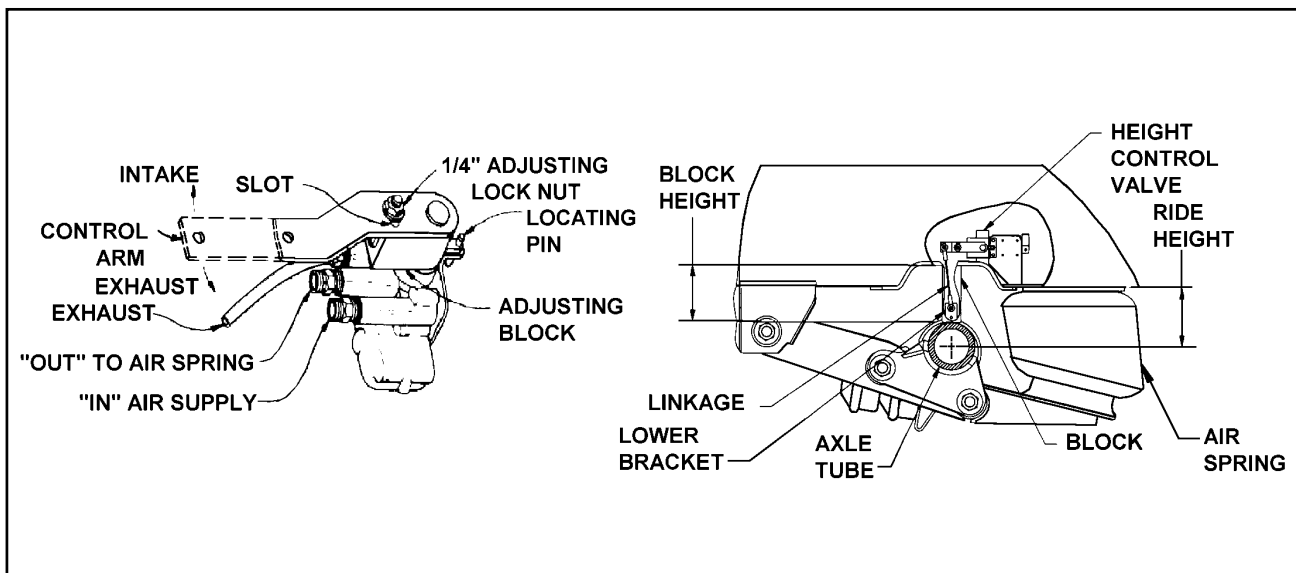

Figure 4-6 Air Ride Height Adjustment
### 4-6.2 Tandem Axle Air Ride Height Adjustment. (See Figure 4-6 for parts identification).
- Disconnect linkage at the control arm and raise control arm to the "up" position, raising the trailer until a block can be placed between axle tube and undercarriage frame (See Figure 4-6).
- Loosen the 1/4" adjusting lock nut located on the adjusting block, allowing the control arm to move approximately 1 inch. Move the adjusting block until holes align, then insert locating pin. (See Figure 4-6).